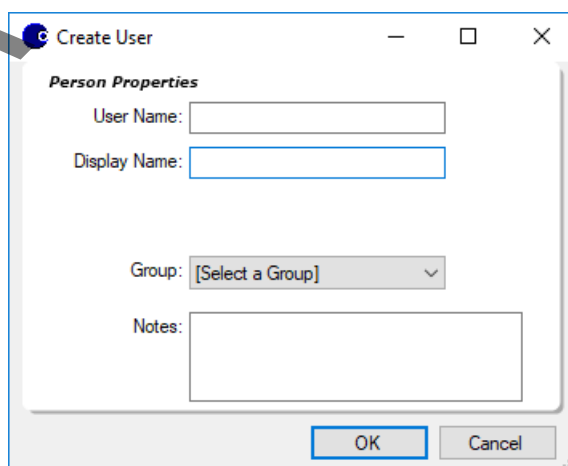

Figure 5-17 Create user window
2. Click the **Click to Add Person** button to add a new person. You can see the **Create User** window opens, as shown in Figure 5-17.